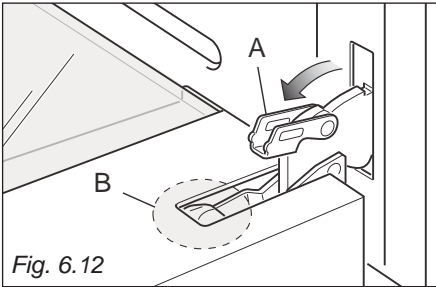
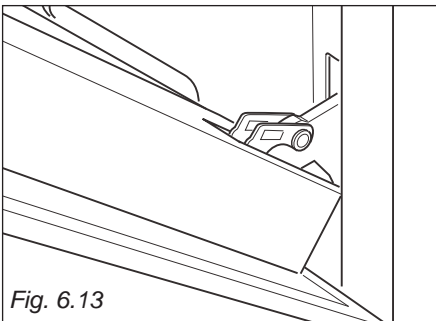

Fig. 6.12
Fig. 6.13
- Open the lever "A" completely on the left and right hinges (fig. 6.12).
- Gently close the door (fig. 6.13) until left and right hinge levers "A" are hooked to part "B" of the door (fig. 6.12).